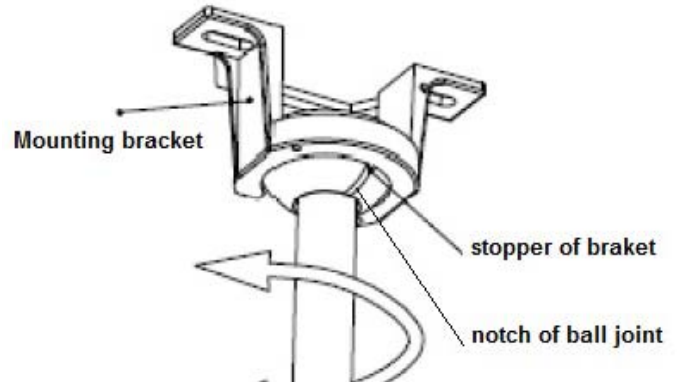

Fig. 5
- Ensure the notch of ball joint is positioned on the stopper of mounting bracket to prevent fan from rotating when in operation. Fig. 5